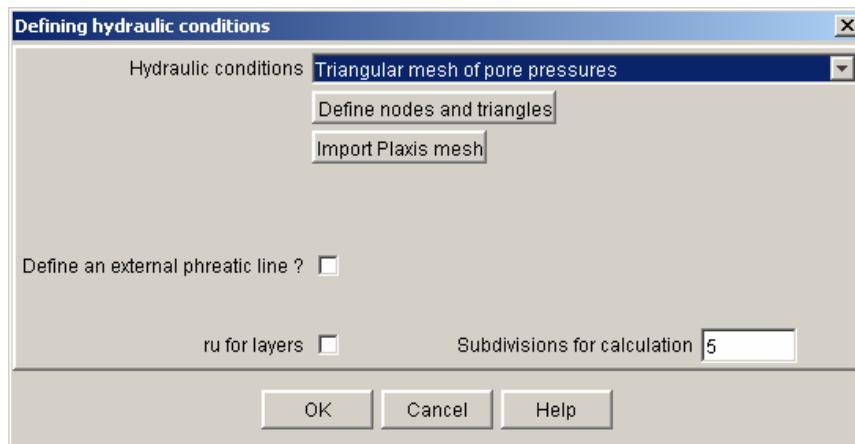

Figure 84: definition of a triangular pore pressures mesh
- Triangular mesh of pore pressures: select the relevant option in the top list (Figure 84).
To use this option, click on the “Import Plaxis mesh” (Figure 84).